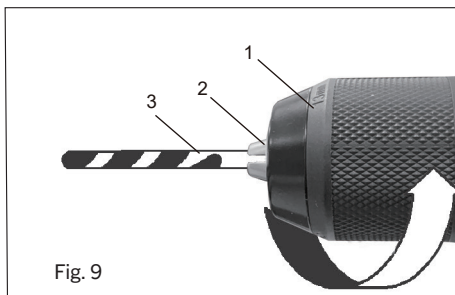

Fig. 9
1. To open the keyless drill chuck, grasp and hold the chuck (1) with one hand (Fig. 9), and rotate in a counterclockwise direction until the chuck jaws (2) open wide enough to accept the bit (3).